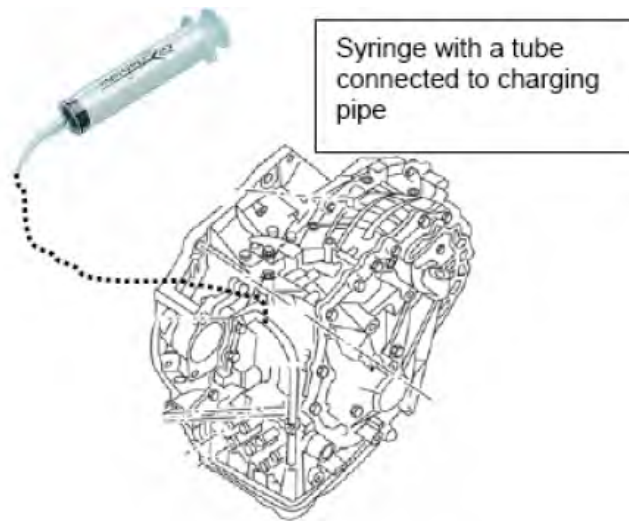

Figure 2
a. To check fluid type, draw a sample by using a syringe or suitable tool through the oil level gauge charge pipe, or drain from the oil pan (see Figure 2).